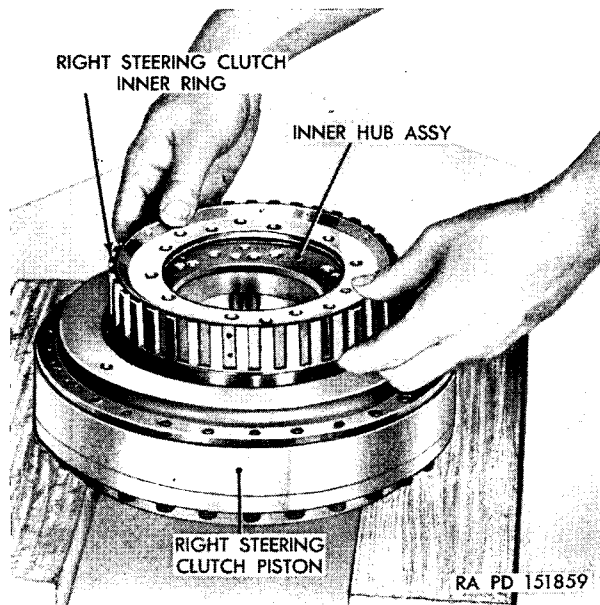

Figure 120. Installing right-steering-clutch-inner ring.
b. With the steering-clutch-piston lock ring in place against the lower side of the right-steering-clutch piston, place the left-steering-clutch piston over the clutch-inner hub (fig. 117). Aline the two holes with the two dowel pins on the right-steering-clutch piston. Secure the two pistons together with 30 $\frac{5}{16}$ -inch piston assembly screws (fig. 116). Turn the assembly over. Install the right-steering-clutch-inner ring on the inner hub assembly, locating it on the four dowel pins (fig. 120). Turn the assembly over. Install the left-steering-clutch-inner ring on the clutch-inner hub, locating it on four dowel pins.